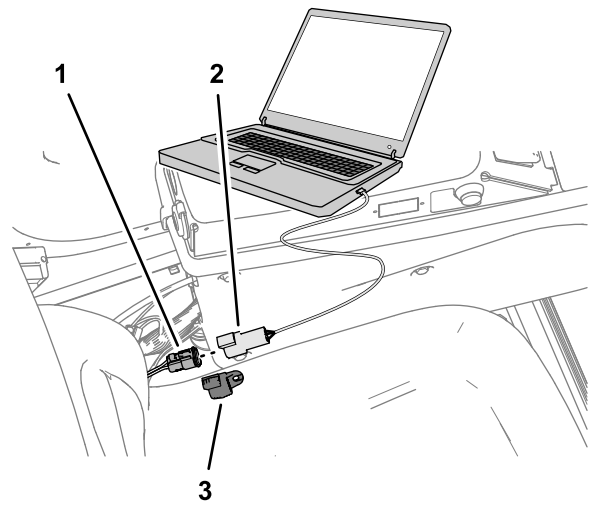

Figure 145
7. Remove the cap from the 3-socket connector of the kit wire harness CAN port labeled DUPLICATE DIAG CONNECTOR, and plug the 3-pin connector USB/CAN interface cable into the 3-socket connector (Figure 145).